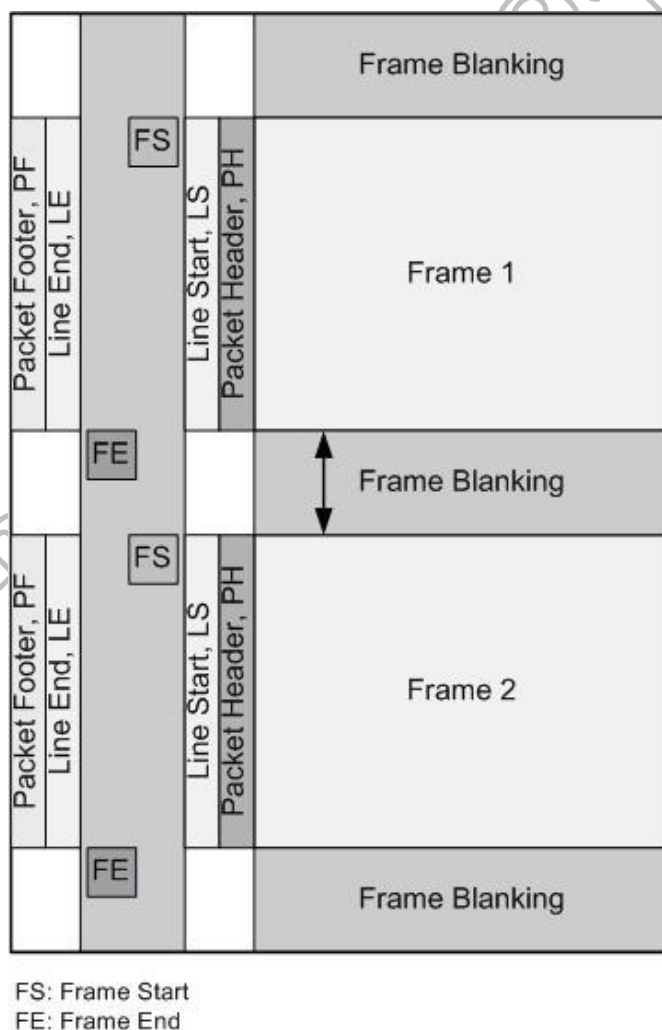

Figure 7.2: Frame format
The format of the frame follows Figure 7.2. The Line Start (LS) and Line End (LE) marker are tunable.